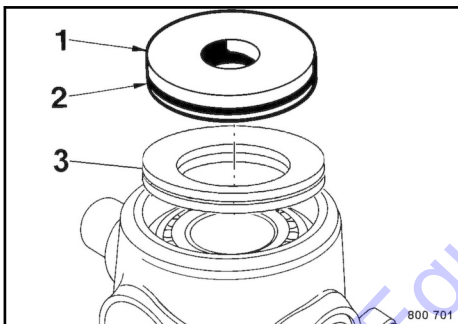

Fig. 191
Take disc 1 ↗ Fig. 191 out of the bearing housing and remove O-ring (2).